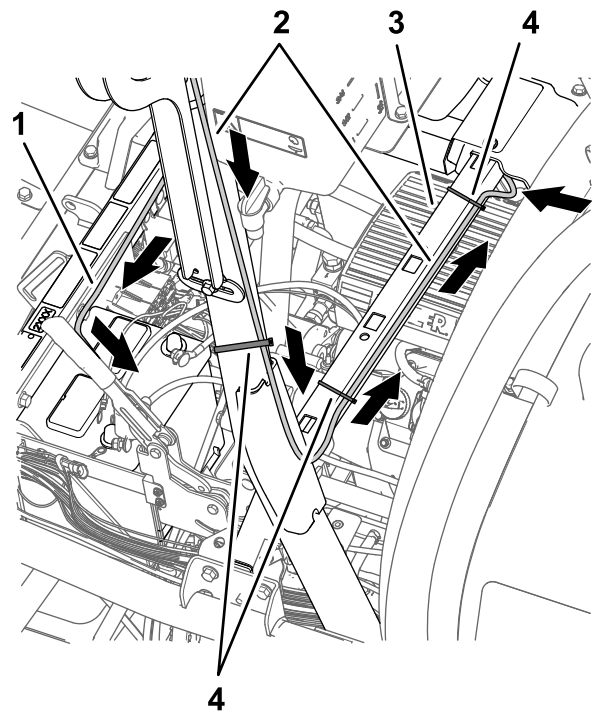
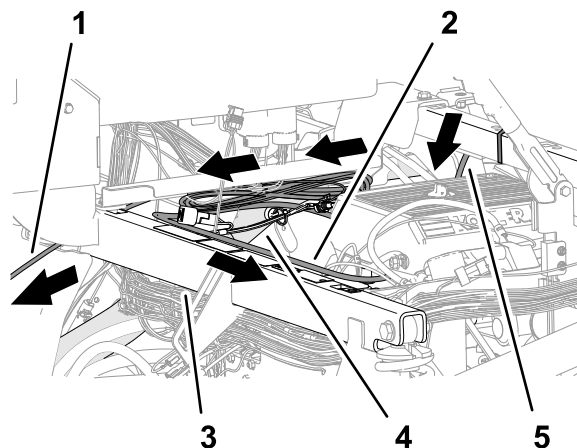

Figure 200
Figure 202
1. Route the data harness and battery harness down the back of the left, vertical roll bar to the cross member for the seat support (Figure 200).
2. Secure the 390 cm (153-1/2 inch) data-harness branch for the navigation receiver to the roll bar as shown in Figure 200.
5. Route the data harness and battery harness across the cross member for the seat support and secure the 390 cm (153-1/2 inch) data-harness branch to the cross member with 2 cable ties (Figure 200 and Figure 202).
6. Route the 220 cm (86-5/8 inch) battery-harness branch along the right, upper-frame tube (Figure 202).
7. Route the 220 cm (86-5/8 inch) battery-harness branch across the shock-support tube toward the battery (Figure 202).
8. Route the 220 cm (86-5/8 inch) data-harness branch (the harness branch with the 26-socket connector) below the control console and forward toward the dash panel (Figure 202).